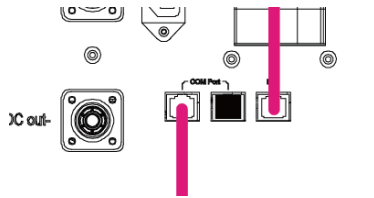

Figure 4-13 Terminal resistance in one of the HV900112
- G. Another COM port of HV900112 should be inserted with the terminal residence from HV900112 parts list. You can see the detailed information Figure 4-13.